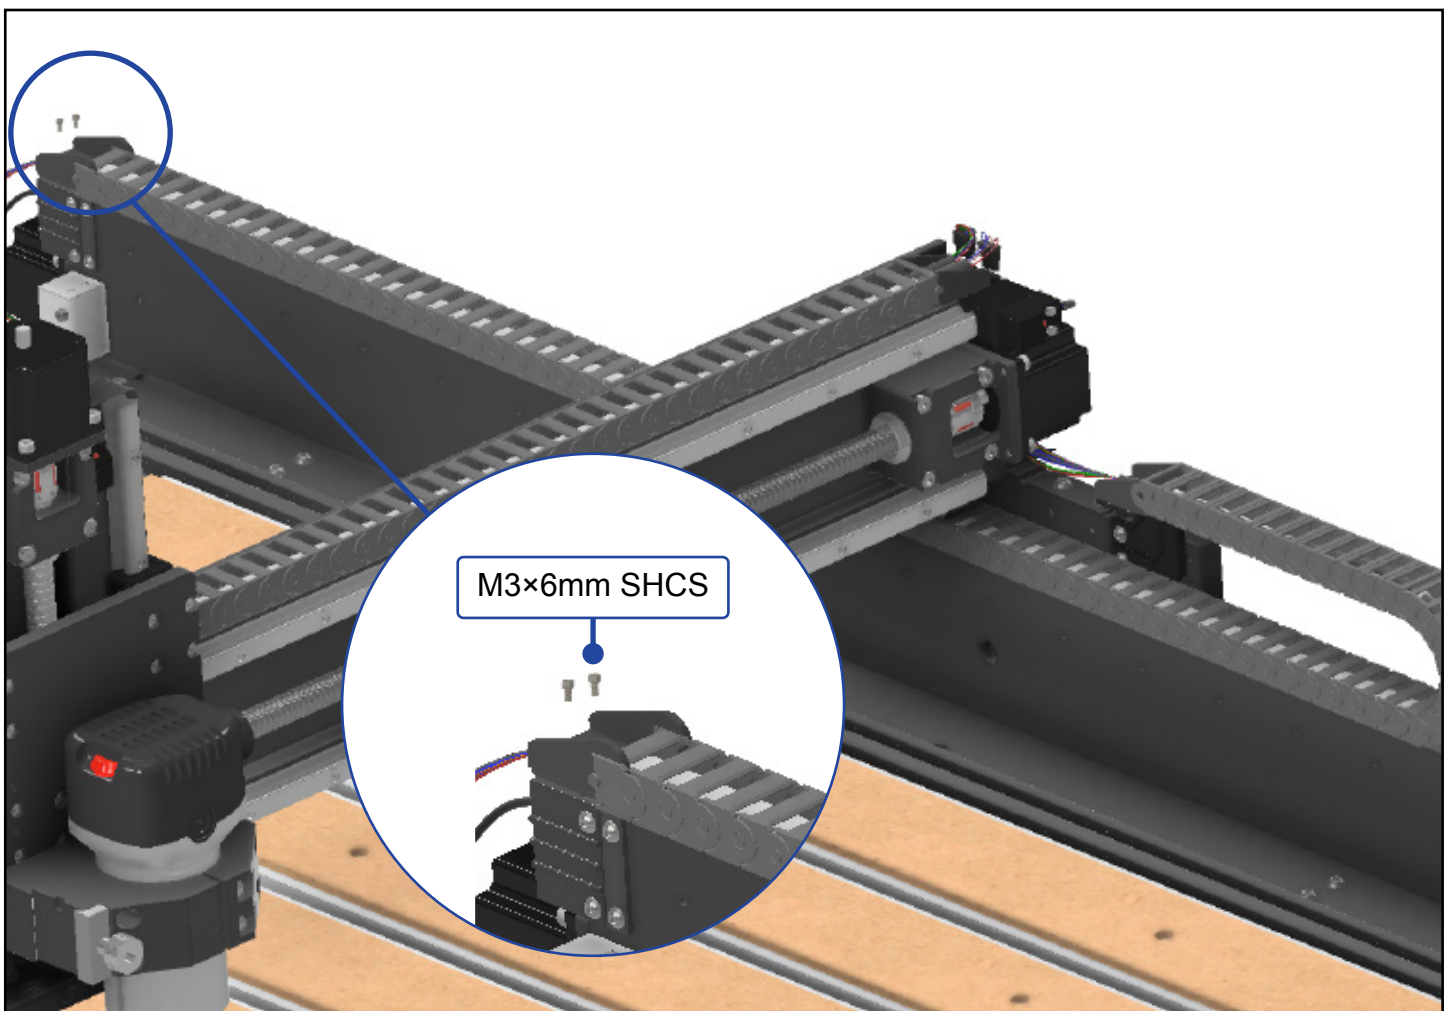

Figure 4-3
6. Use a 2.5mm hex key and two (2) M3×6mm SHCS to secure the tail of the drag chain at the rear of the Y-Right assembly. Fully tighten. See **Fig. 4-3**.